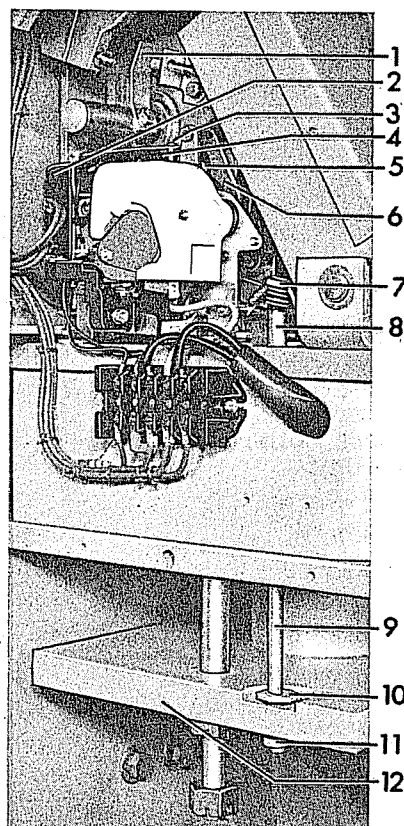

Figure 3 (8030928) Control Device
The closing sequence is initiated from a control switch mounted on the door of the metal-clad unit or at a remote operating station. Operation of the closing control switch energizes the pick-up coil of the control device, Figure 3, which is mounted on the operating mechanism and controls the closing operation of the breaker. As the
When the solenoid armature is near the end of its stroke the control device plunger (9) Figure 3 mechanically trips the main control device contacts, de-energizing the closing coil and allowing the armature to return by gravity to its original position. The control device plunger also mechan-